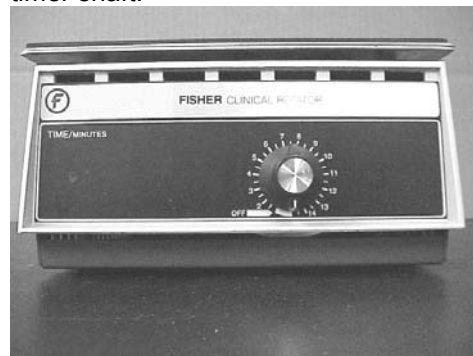

Figure 3. Using the Timer Control
4. The timer control (Figure 3) also functions as the on-off control for the rotator. Turn the timer control clockwise to operate the rotator and to set the desired rotation time in minutes (timer calibrated in minutes). While in operation, the timer control is driven counterclockwise, showing the remaining operation time. At zero time (OFF), the rotator is shut off and a bell is sounded. The timer control may be manually turned to zero (or OFF) or any other time setting during an operation.